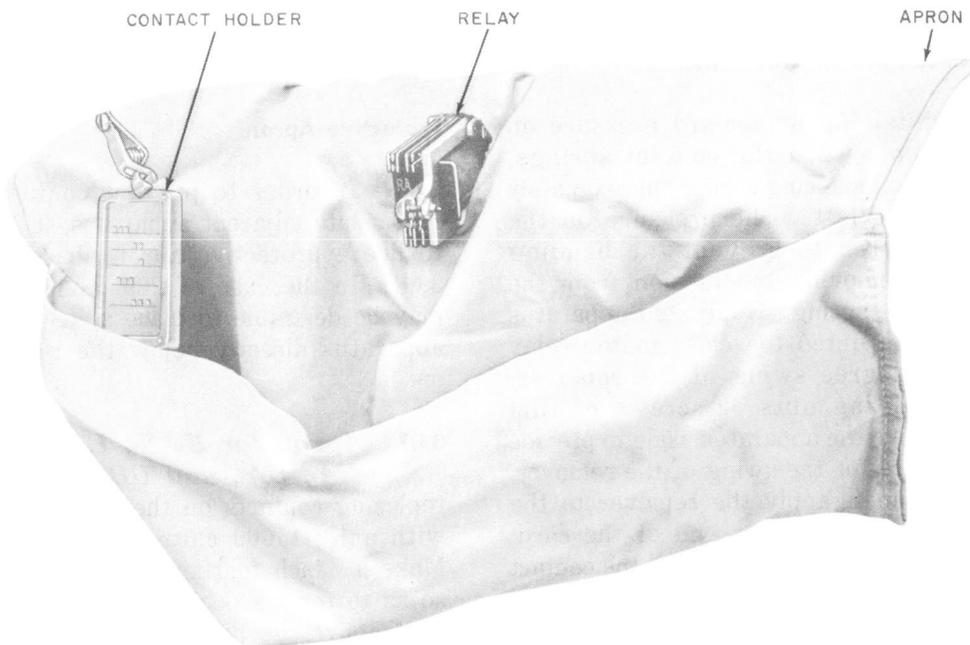

Fig. 1—Apron and Contact Holder in Working Position
3.07 *Apron for E-, F-, H-, M-, R-, T-, U-, Y-, EA-, UA-, and UB-Type Relays:* Before replacing contacts on these relays, make an apron with a KS-14666 cloth in the following manner. Make a 6-inch fold and stitch the sides of the fold so as to form a pocket the full width of the cloth. Just above the pocket at about the center of the apron, cut a hole which, after turning back the edges and hemming to prevent unravelling, will finish to a size of about 1-1/4 inches square, as shown in Fig. 1.
3.09 Place the apron over the apparatus on which the contacts are to be replaced as shown in Fig. 1, and adjust the apron so the contacts that are removed will fall into it. Clip the plastic holder on which the contacts are furnished to the apron or other convenient support adjacent to the apparatus being worked on. Fig. 1 shows the holder clipped to the apron.